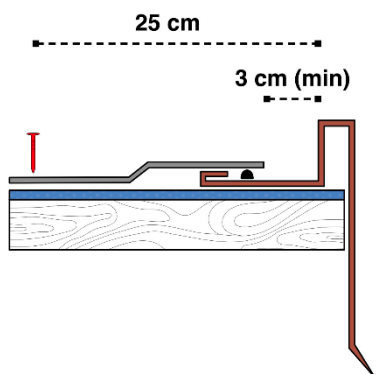

Fig. 4 - Lateral flashing detail
- Install the lateral flashing above the membrane/underlayer membrane applied to the roof. Apply a Bitustick bead to the external side of the lateral flashings. Proceed with the shingles installation, as described below, on the lateral flashing letting a space of about 3cm between the end of the shingles and the edge of the lateral flashing – Fig. 4. Do not use nails less than 25 cm from the flashings.